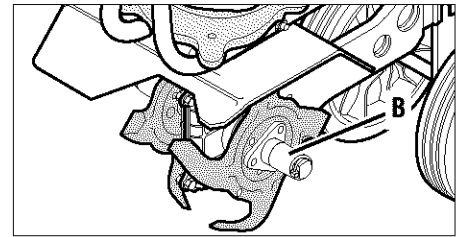

Figure 13: Narrow tilling tine configuration.
4. Slide one of the long bushings (B, Figure 13), provided with the unit, onto the shaft. Insert the ring lock pin through the rounded side of the tine shaft and snap the ring down over the shaft (see *DETAIL - Ring Lock Pin*, Figure 10, in Section 4).